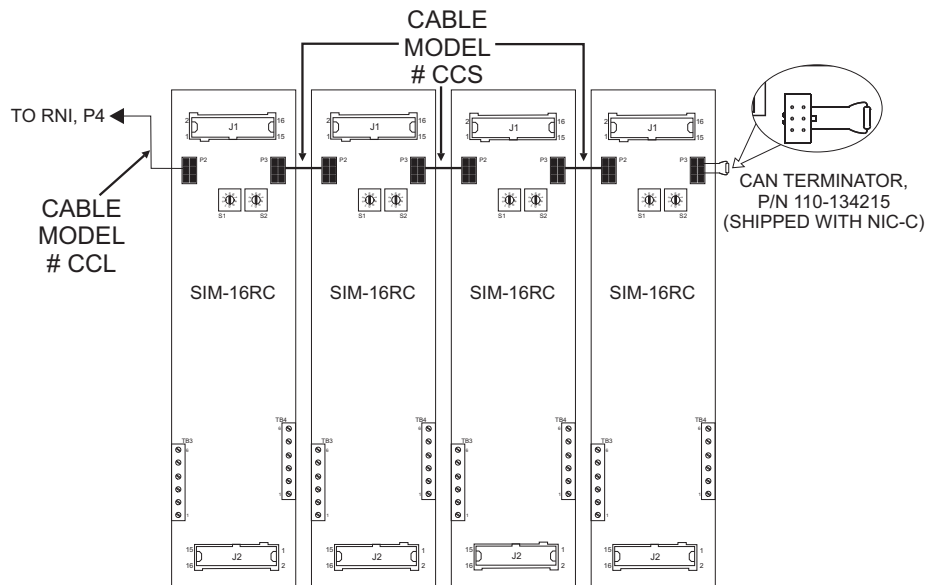

Figure 2
- The SIM-16RC can be installed with or without an RNI. Connect the CAN bus and 24V as shown in Figures 2 and 3.